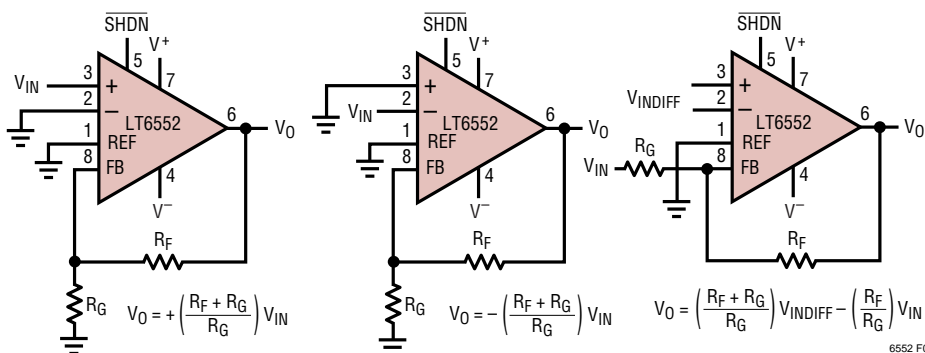

Figure 4
Figure 4 shows several other connections using dual supplies. In each case, the amplifier gain is set by a feedback network from the output to Pin 8 (FB).